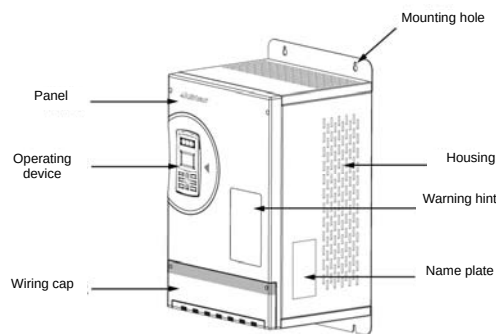

Fig. 3.3 Inverter outline and part name
3.4.1 For inverter outline and part name, see Fig. 3.3.